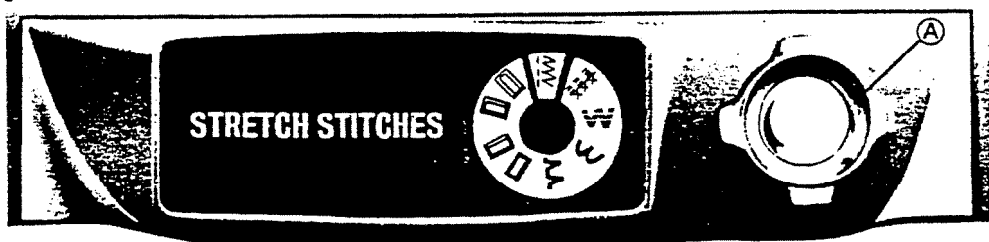

Fig. 14
- (1) Take up and needle bar at their highest positions.
- (2) Turn selector knob "A" (Fig. 14) clockwise (to the right)
- (3) "Z" position creative embroidery
- (4) Buttonholes - made in various sizes and length without turning the material.
- (5) Blind hem - this will save you many hours of tedious hand work
- (6) Scallop design - for decorative use
- (7) Multiple zigzag stitch - for sewing stretch fabric - sewing elastic and hundreds of other uses.
- (8) Stretch stitch - for sewing the knits, over casting, reinforced straight stitch and hundreds of other uses.